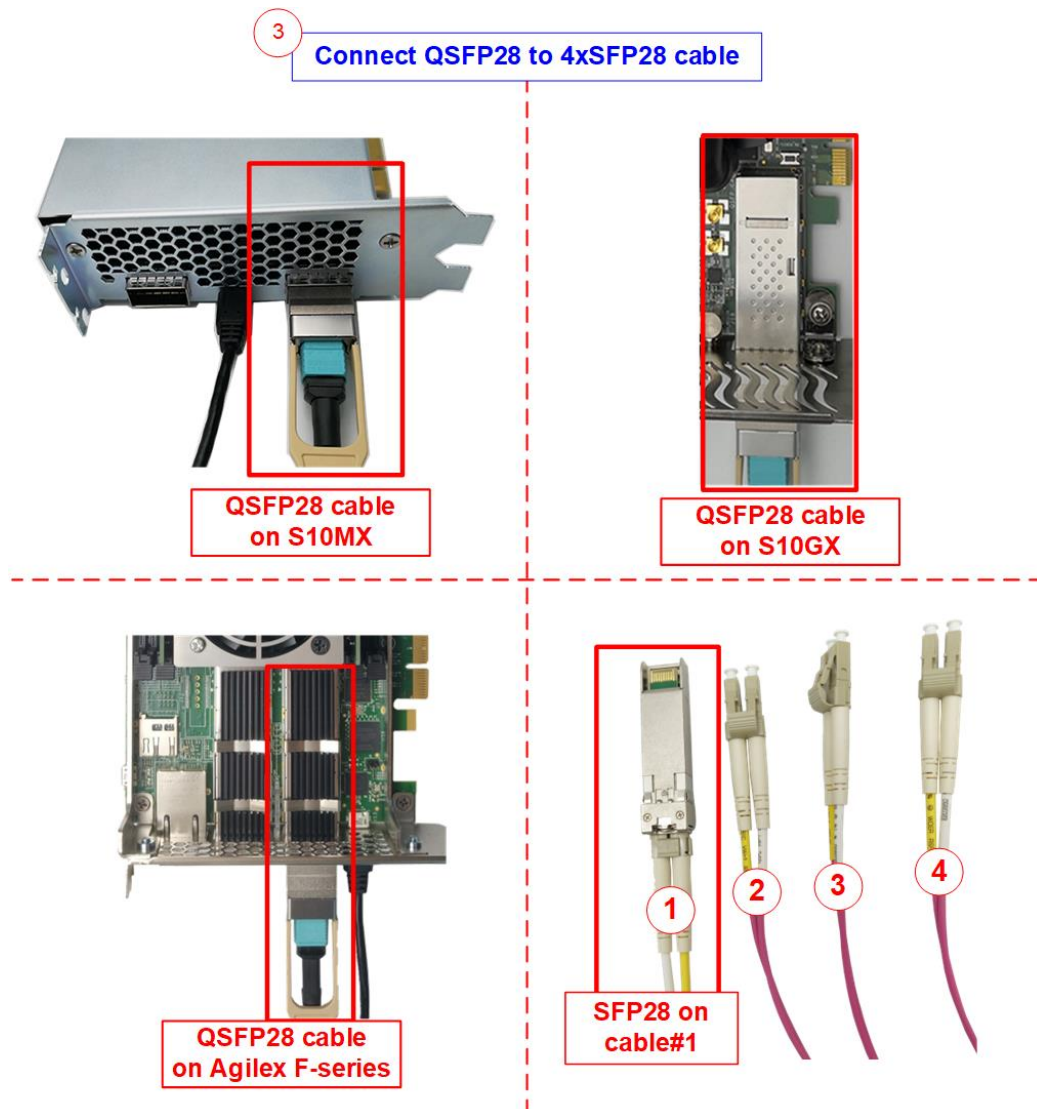

Figure 2-5 25Gb Ethernet connection
- 3) Connect 25Gb Ethernet cable between FPGA board and PC. Insert QSFP28 to 4xSFP28 cable between FPGA board and PC. Use SFP28 no.1 to connect to QSFP28, as shown in Figure 2-5.
Note: If using Stratix10 MX board and Agilex F-Series board, please use the right connector, as shown in Figure 2-5.